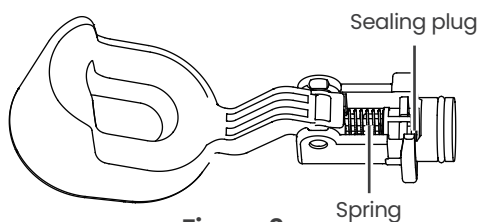

Figure 2
- d. Clean the removed float valve, paying special attention to the spring and sealing plug (Figure 2).